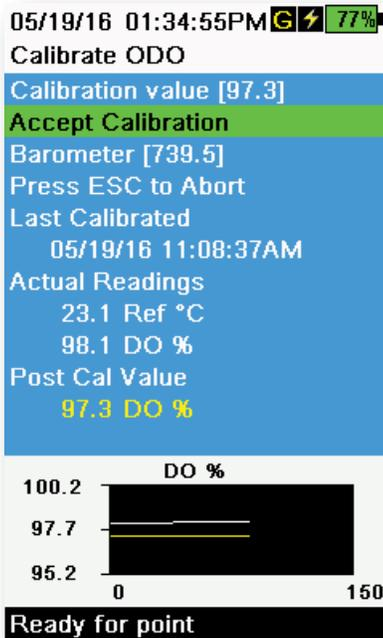

Figure 48 Calibrate ODO %
6. Observe the actual measurement readings for stability (white line on graph shows no significant change for 40 seconds), then select **Accept Calibration** (Figure 48). “Calibration successful!” will be displayed in the message area.